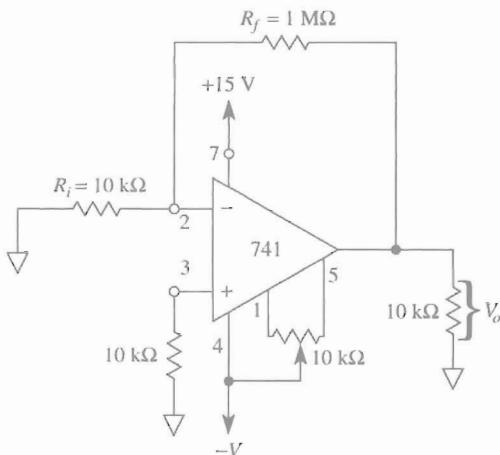

FIGURE 9-9 Circuit for Example 9-6.
A 741 op amp in the circuit of Fig. 9-9 has the following drift specifications. As temperature changes from 25°C to 75°C, I_{os} changes by a *maximum* of 0.1 nA/°C and V_{io} changes by a *maximum* of 20 μ V/°C. Assume that V_o has been zeroed at 25°C and then the surrounding temperature is raised to 75°C. Find the maximum error in output voltage due to drift in (a) V_{io} ; (b) I_{os} .
- 9-13.** In Fig. 9-9, V_{io} changes by $\pm 0.5 \text{ mV}$ when the temperature changes by 50°C . What is the change in V_o due to the change in V_{io} ?
- 9-14.** I_{os} changes by $\pm 2 \text{ nA}$ in Fig. 9-9 for a temperature change of 50°C . What is the resulting change in V_o ?